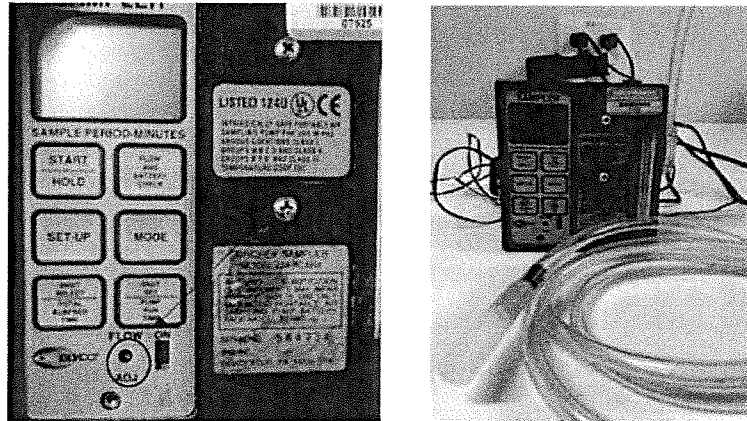

Figure 13. High Flow SKC Pump
- 4.3.2.9 To adjust flow on MITC sampler, place the screwdriver in the valve directly below the word “flow” (Figure 13). Make small turns until the flow has hit its desired range.